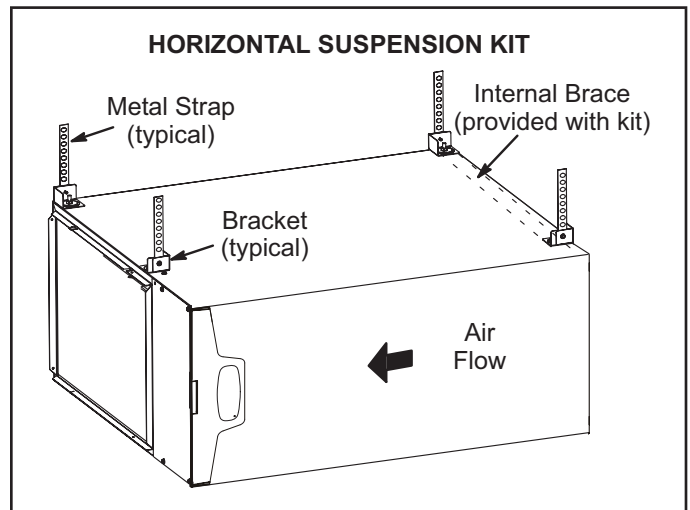
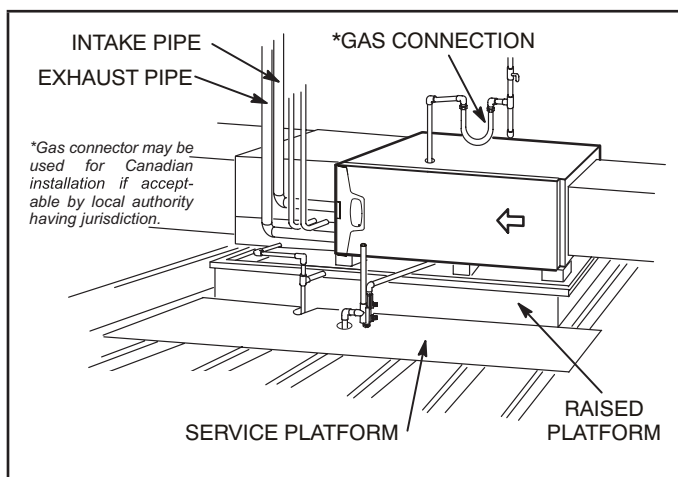

Figure 18
Figure 19
This furnace may be installed in either an attic or a crawlspace. Either suspend the furnace from roof rafters or floor joists, as shown in Figure 18, or install the furnace on a platform, as shown in Figure 19. A horizontal suspension kit (51W10) may be ordered from Lennox or use equivalent.
- 2 - Construct a raised wooden frame and cover frame with a plywood sheet. If unit is installed above finished space, fabricate an auxiliary drain pan to be installed under unit. Set unit in drain pan as shown in Figure 19. Leave 8 inches for service clearance below unit for condensate trap.